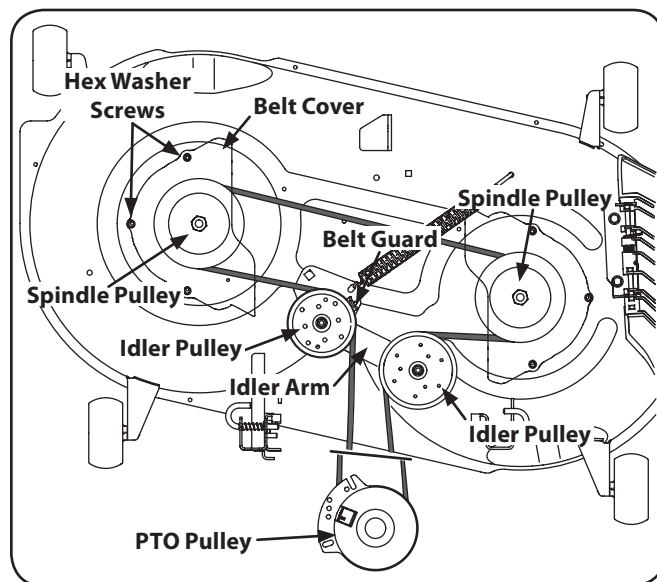

Figure 7-9
2. Remove the hex washer screws securing the belt covers to the deck. See Fig. 7-9.
5. Install the new belt around the spindle pulleys as shown and reinstall the belt covers. See Fig. 7-9.